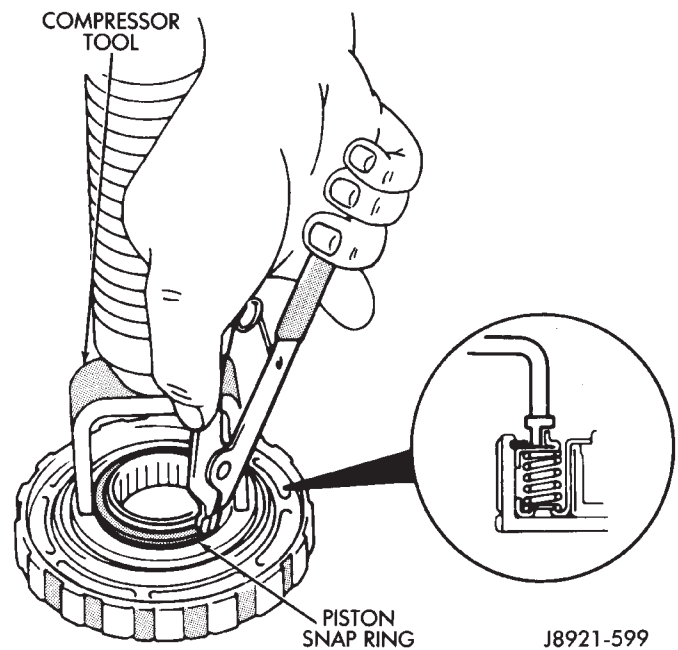

Fig. 4 Removing/Installing Second Brake Piston Snap Ring
(4) Compress piston return springs with shop press and Tool 7538. Then remove piston snap ring (Fig. 4).
(5) Remove compressor tool and remove spring retainer and return springs.